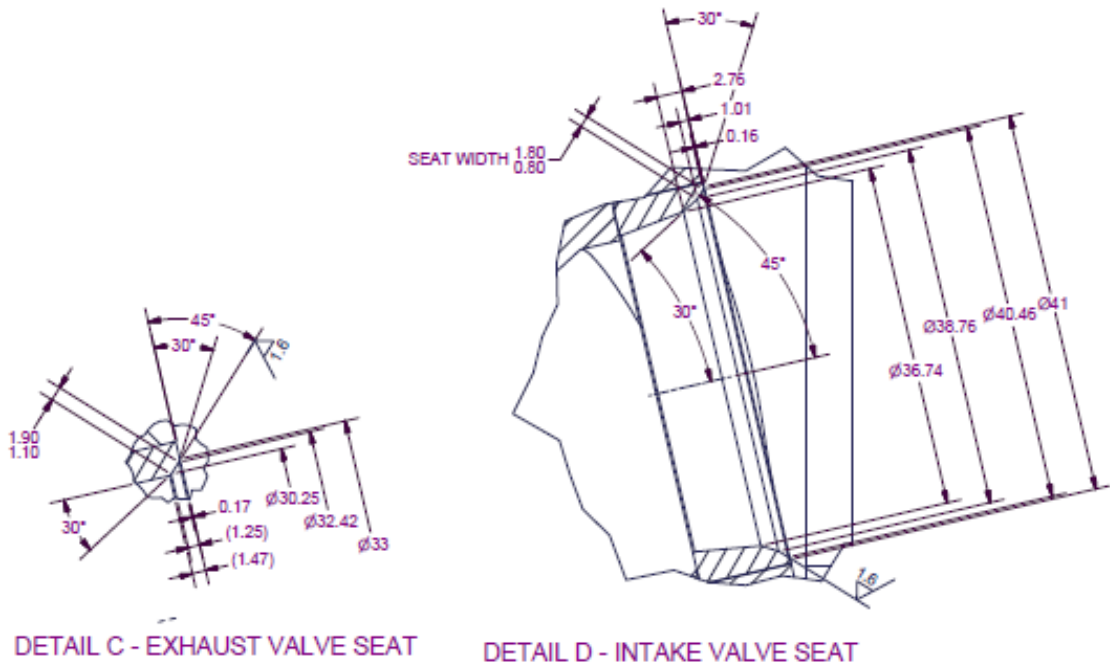

Figure 90 – Valve Seat Geometry
- **Top end overhaul:** apply bearing blue to the valve and rotate the valve against the valve seat using hand pressure only. Remove the valve and inspect for sealing between the valve and the seat – if there is not a uniform seal within the limits shown in Figure 90 then the seats will need to be cut and the valves may also need to be refaced.
- Valve seats are cut at 45 degrees for the actual seat and then under and over cut at 30 and 60 degrees as required to obtain a seat width as shown in Figure 90. In general, try to cut only the minimum amount from each seat in order to extend the life of cylinder heads.